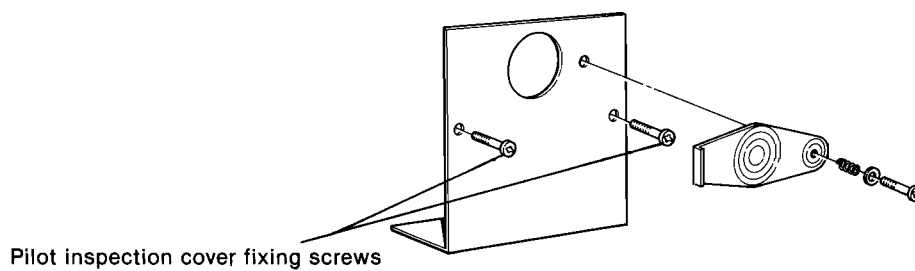

Fig. 32
- d) Remove the pilot inspection cover 2 screws (fig. 32).
- e) Remove the pilot pipe/thermocouple retaining plate, 2 screws (fig. 32).
- Remove pilot inspection cover, 2 screws (fig. 32).